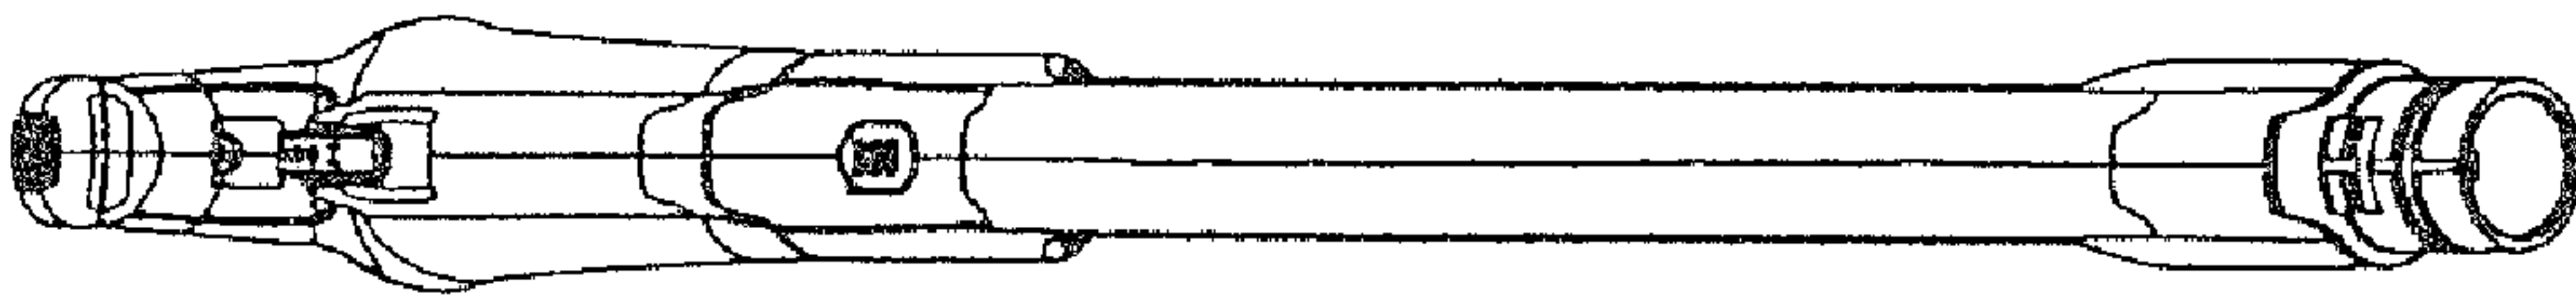

FIG. 1
- FIG. 1 is a front view in a closed position;